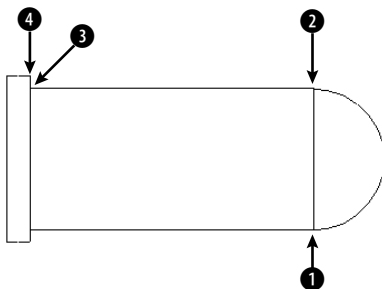

**Figure 4-26:** Drawing a steam boiler with an endpoint running object snap.
8. Start the ARC command. At the Specify start point of arc or [Center]: prompt, pick the endpoint at ❶, shown in Figure 4-26. (Look for the marker and AutoSnap tooltip.)
9. At the Specify second point of arc or [Center/End]: prompt, right-click (or press the down arrow if Dynamic Input is on) and choose End. Pick the endpoint at ❷, shown in Figure 4-26.
11. Start the LINE command and at the Specify first point: prompt, pick the endpoint at ❷ in Figure 4-26.
14. Start the LINE command. At the Specify first point: prompt, place the cursor 0.25 units above ❸ in Figure 4-26 (at 2,5.25). If you see the endpoint marker for the nearby line, press F3 to turn off the running OSNAP temporarily. Pick point 2,5.25.
Specify next point or [Close/Undo]: *(If you turned off OSNAP in Step 13, press F3 to turn it on again.) Pick the endpoint at 4 in Figure 4-26.*